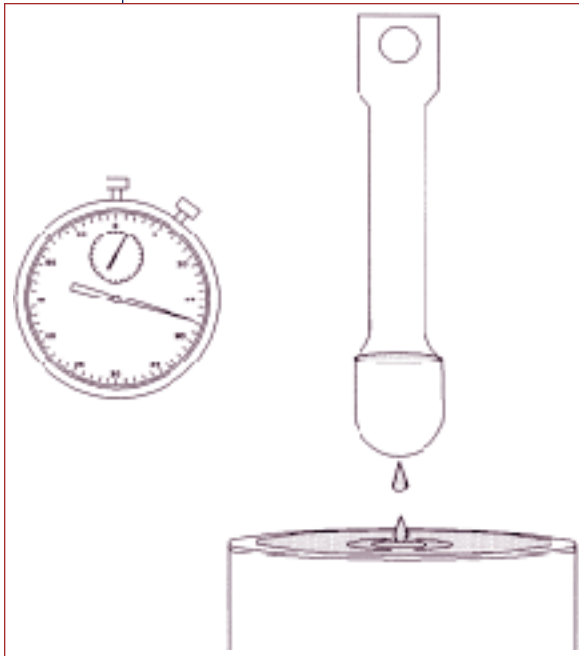

Figure 5: Zahn Cup
A. Always have the correct gun setup for the coating to be sprayed and the size of the area to be covered. These variables include the size of fluid tip and air cap used. Fluid tip size is determined by the viscosity of the coating as well as the flow rate setting of the gun. The viscosity is determined using a Zahn cup measuring system (see figure 5, pg 14).